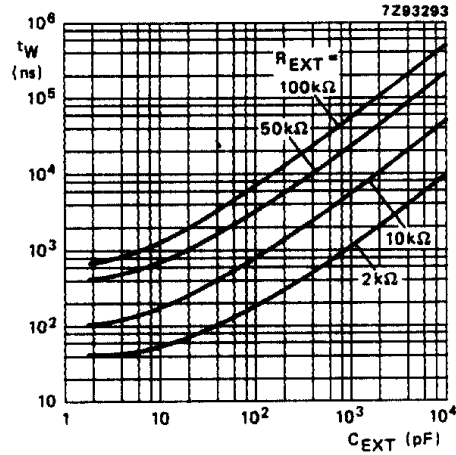

Fig.9 Typical output pulse width as a function of the external capacitor values at $V_{CC} = 5.0$ V and $T_{amb} = 25$ °C.
- For other R_{EXT} and C_{EXT} combinations see Fig.9.